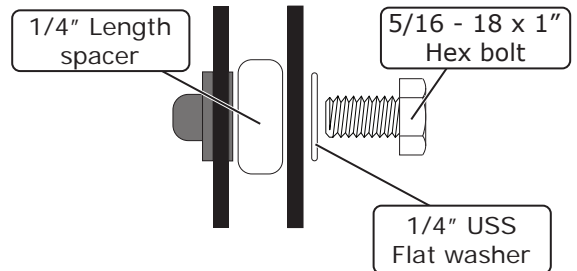

Figure 1
2. Install (4) 1/4" length spacers between the core support and the radiator. Each 1/4" spacer is secured using (4) 5/16-18 x 1" hex bolts and (4) 1/4" USS flat washers at both the upper and lower mounting locations (See Figure 1 and Photo 2, below).